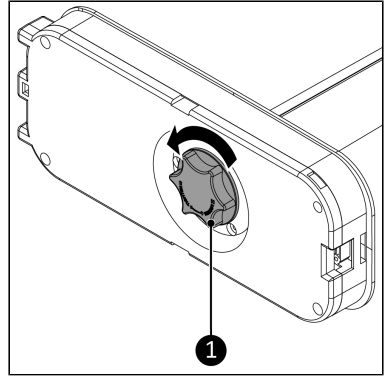

Figure 23.
1. Remove the base safety screw (Figure 23, pos. 1) from the device.